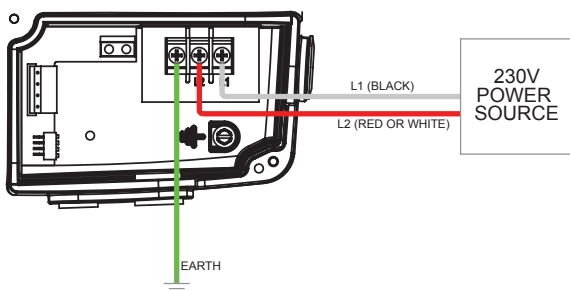

Figure 1: Wiring Diagram without Aux Load
- ☐ Make certain the motor is properly wired (refer to Figure 1)